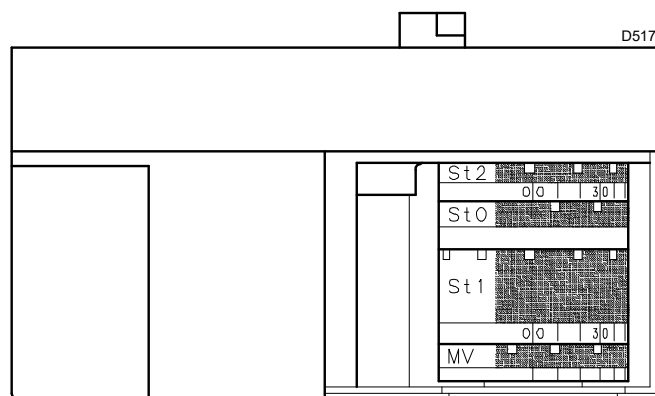

Fig. 27
- If it is necessary to reduce it, slightly decrease the angle of orange lever (Fig. 27 on page 27) with small, regular movements, i.e. bring it from an angle of 15° to 13° - 11°...